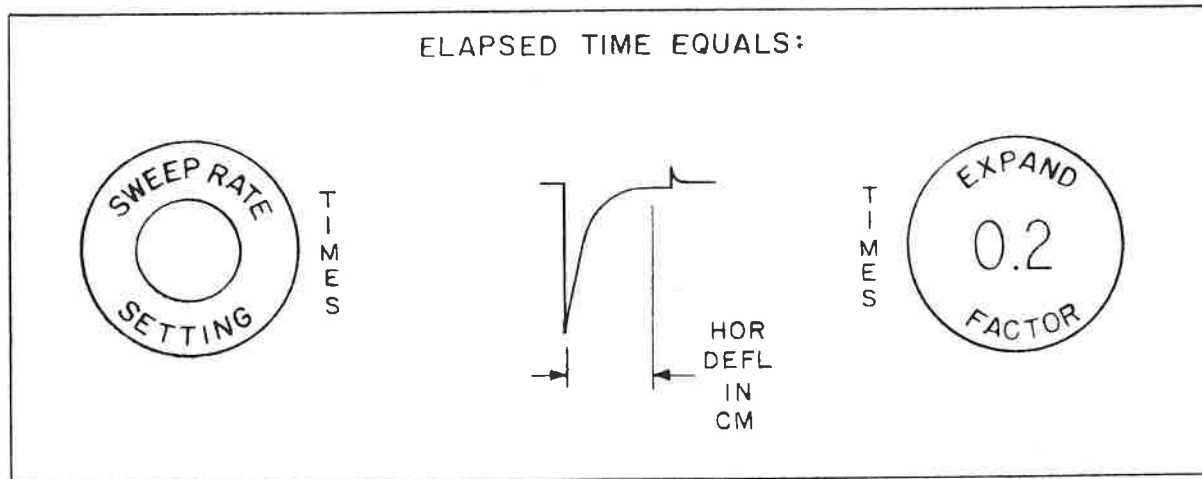

Figure 3-7. Measuring Elapsed Time When Expand Switch is Set to X5
4. If the EXPAND switch is set to X5, the reading obtained in step 3 must be multiplied by 0.2 to obtain the actual time interval. The Expander Indicator lamp will be off when the EXPAND switch is set to X5. This fact alerts the operator that the 0.2 factor must be applied to the SWEEP RATE control setting. See Figure 3-7.